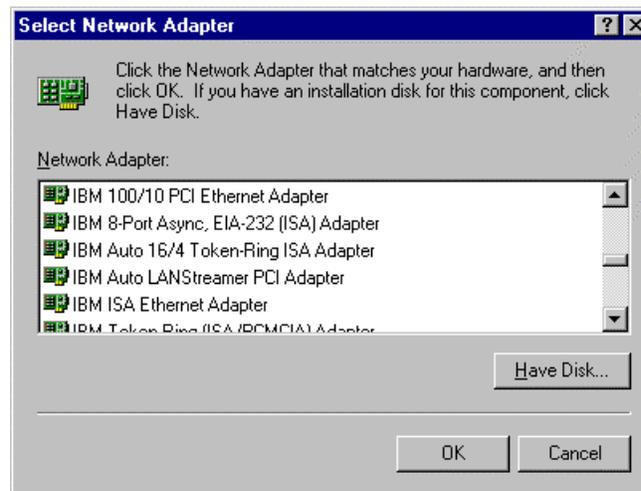

Figure 6-5. Select Network Adapter
- Click the **A**dd button to add a new adapter. The Select Network Adapter dialog box will display a list of adapters included with Windows NT (Figure 6-5).